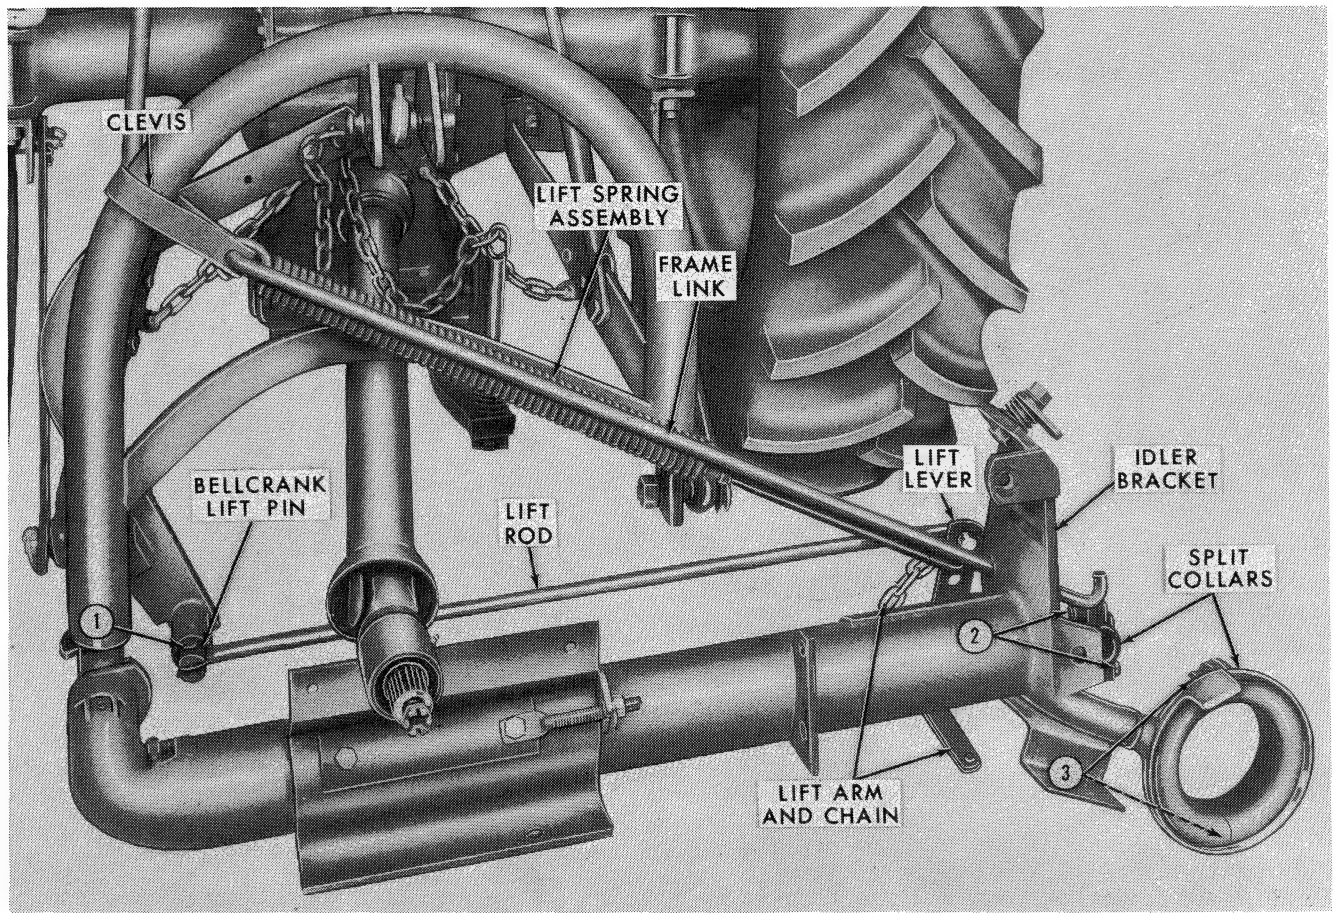

*Figure 32*
- a. Attach the stabilizer bar brackets, Figure 32, to the tractor rear axle housings.
- b. Attach the stabilizer bars to the brackets, as shown in Figure 32.
- d. Secure the tractor top link, Figure 32, to the mower attaching bracket with the link pin and lynch pin.
- g. Depress the spring-loaded lock pin on the front universal of the P.T.O. and slide the joint on the tractor P.T.O. shaft until the pin locks in the groove of the shaft. See Figure 32.
- h. Insert the chain pin, Figure 32, in the tractor drawbar and secure with the toggle in the lower end of the pin.